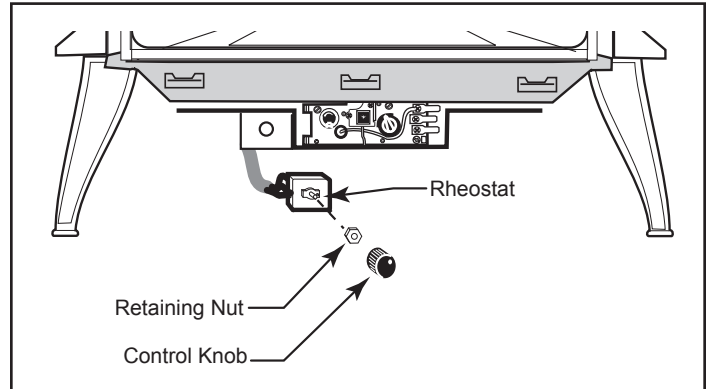

Figure 13 - Attach rheostat to control panel. Valve may look different.
11. The rheostat control switch attaches to the left side of the valve bracket at the front of the stove. (Figure 13)